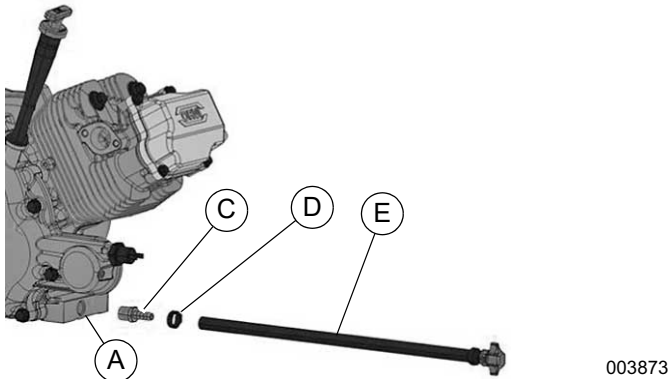

Figure 14-53. Install Oil Drain Hose (HSB)
2. See Figure 14-53. Apply thread sealant to hose fitting (C) and install in front drain port (A). Tighten fitting to 10.0 ft-lbs (13.5 Nm).